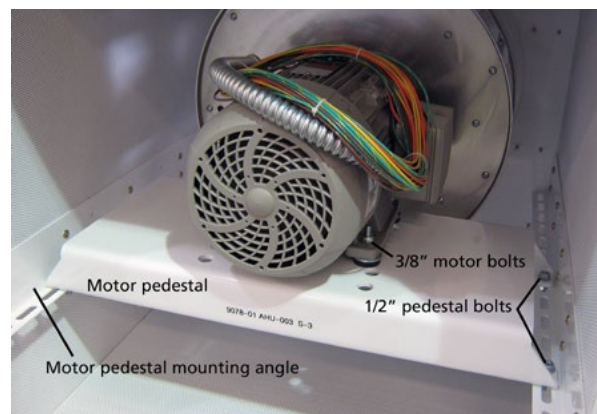

Figure 18: Remove motor pedestal retaining bolts
4. Mark motor pedestal location on the motor pedestal mounting angles (both sides), then loosen and remove (four) 1/2" bolts that retain the motor pedestal to the mounting angles (see Figure 18).